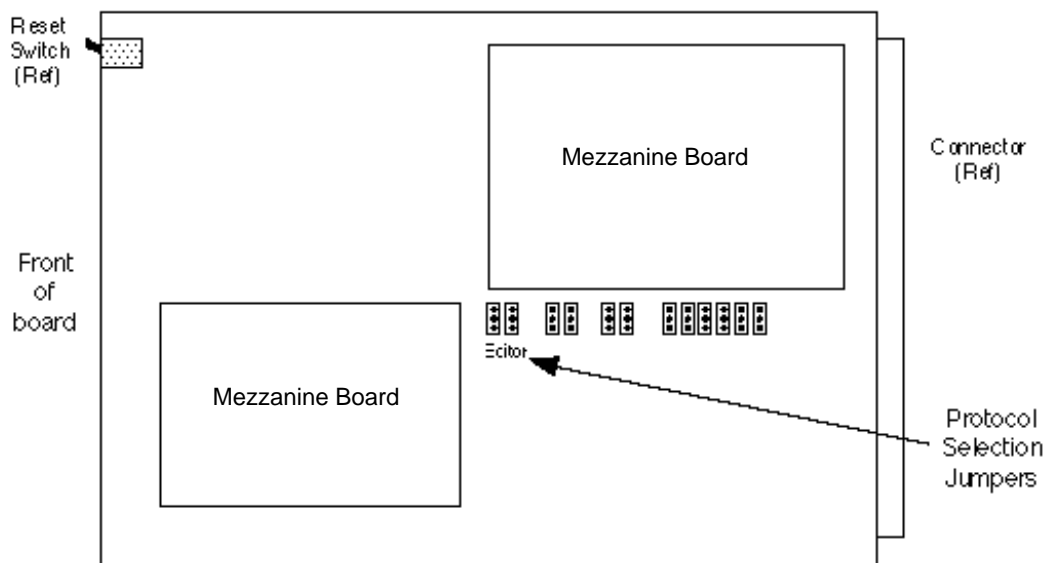

Figure 1. Model 3000 Protocol Selection Jumpers
Protocol selection is accomplished by jumpers on the Control Processor Board (see Figure 1). To set up the Model 3000 for the appropriate protocol, perform the following:
2. Referring to Figure 1, jumper the upper two pins of both EDITOR jumpers for RS-422 protocol or the lower two pins for RS-232 protocol.